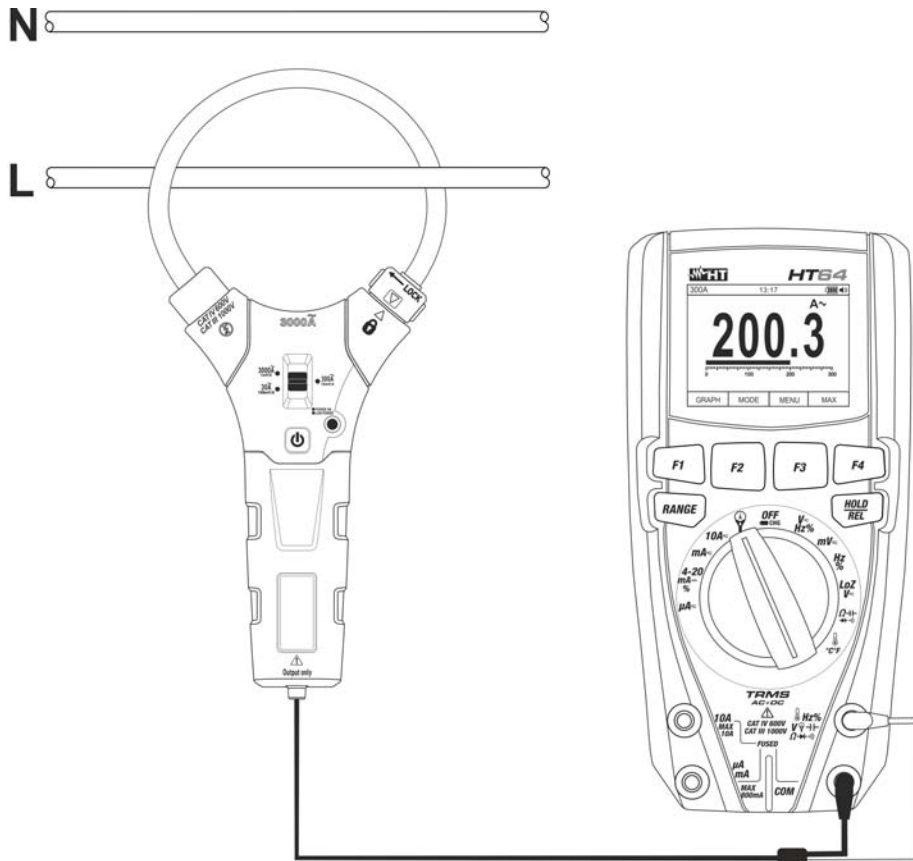

Fig. 32: Use of the instrument for DC/AC current measure with use of transducer clamp
5. Insert the cable inside the jaw (see Fig. 32). The value of current appears on the display